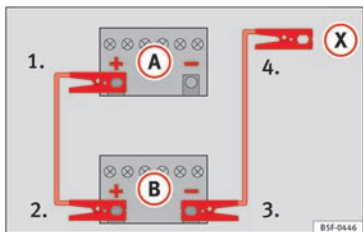

Fig. 74 Diagram of connections for vehicles without Start-Stop system.
2. Connect one end of the **red** jump lead to the positive (+) terminal of the vehicle with the flat battery (A) »» Fig. 74.
3. Connect the other end of the **red** jump lead to the positive terminal (+) in the vehicle providing assistance (B).
- 4a. *For vehicles without Start-Stop system:* connect one end of the **black** jump lead to the negative terminal (-) of the vehicle providing the current (B) »» Fig. 74.